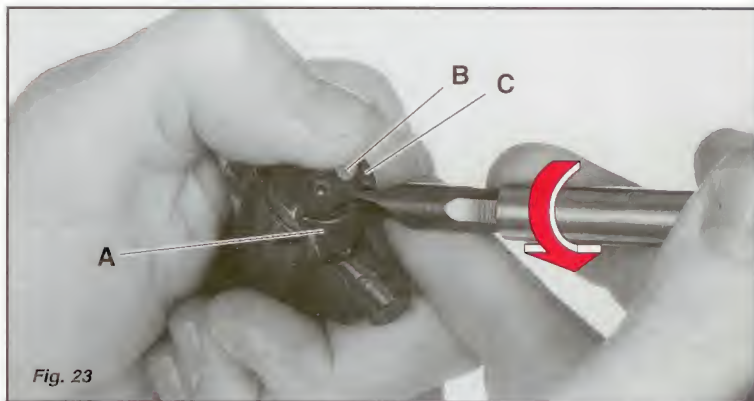

Fig. 23
Figs. 23 and 24: The bolt assembly is held together by the extractor (A). Hold the bolt with the thumb over the ejector (B) to capture it. Insert a screwdriver (or a coin) into the slot between the extractor and the bottom lip of the bolt face (C) and twist to pry up the extractor. The ejector will snap out against the thumb. Remove the extractor then the extractor plunger with its attached spring (D). Lift out the ejector with its attached spring (E). Do not detach the springs. The firing pin (F) will drop out.